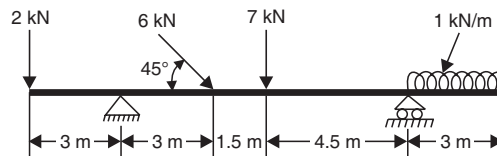

Fig. 3.58
- A simply supported overhanging beam 15 metres long carries a system of loads as shown in Fig. 3.58. Determine the reactions at the supports. [Ans. 7.75 kN ; 9.27 kN acting at 26° 36' with the vertical]